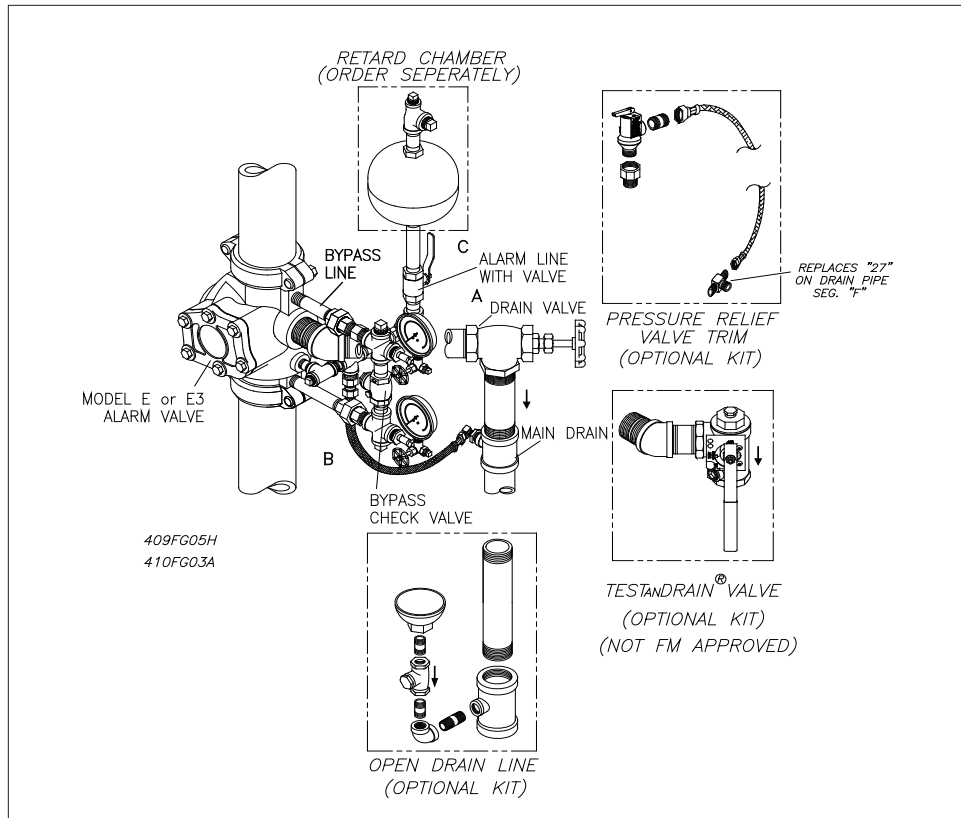

Fig. 3 - E3 Vertical Trim
Water now flows through the uncovered groove and alarm line into the retard chamber. Once the retard chamber is filled the water flow activates the mechanical and electrical alarms (Figs. 3 & 4).
- The by-pass connection with check valve (Figs. 3 & 4) allows pressure surges from the supply to by-pass the alarm valve clapper. An excess system pressure is thus created which steadies the clapper. Should a heavy surge unseat the clapper and permit water to flow into the alarm line, the retarding chamber then comes into action.
The basic trims for the Reliable Model E3 High Pressure Alarm Valve (Figs. 3 & 4), are arranged for rapid, easy and compact attachment, and serve as connection points to Reliable alarm and other devices. They also act as a means for testing the operation of the alarm devices without causing the system to operate. The Model E3 high pressure alarm valves are available in two trims and may be installed in the vertical or horizontal position in the main supply to the wet pipe system:
- A TESTANDRAIN® valve segment is optional, to be purchased separately, as a replacement to the valve (Figs. 3 & 4).